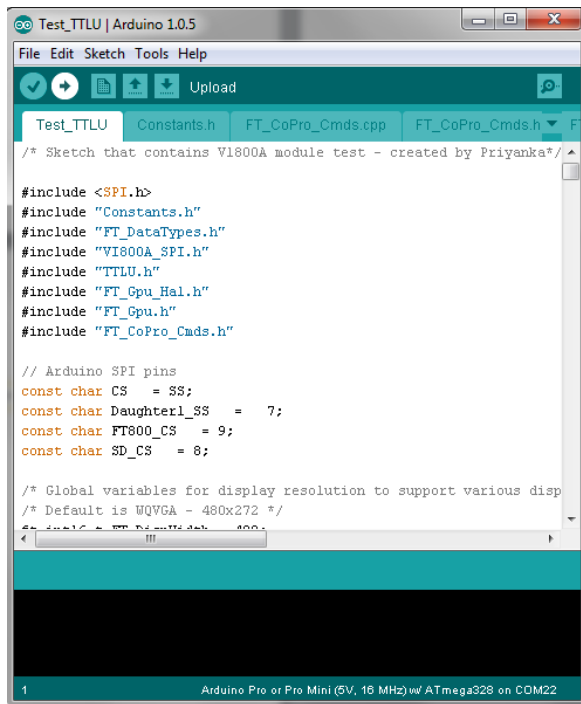

Figure 4.3 Click Upload Button
- Click the Upload button as shown in Fig 4.3. This will upload the FT800 sample to the VM800P.